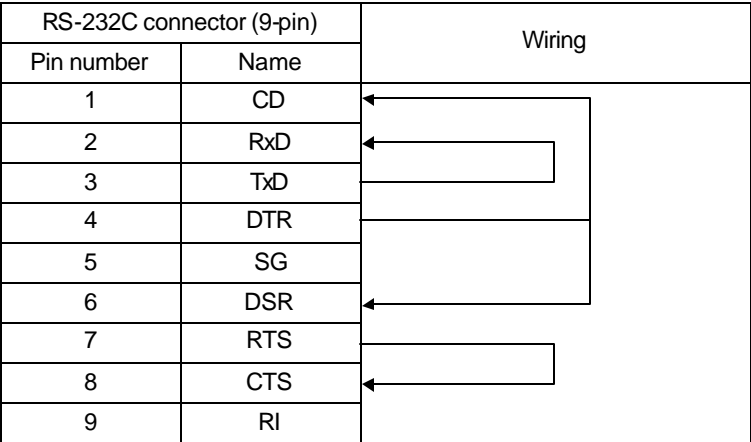

Fig. 10.2 Wiring of RS-232C channel
- 1) Wiring the RS-232C and RS-422 connector as figure 10.2 and 10.3